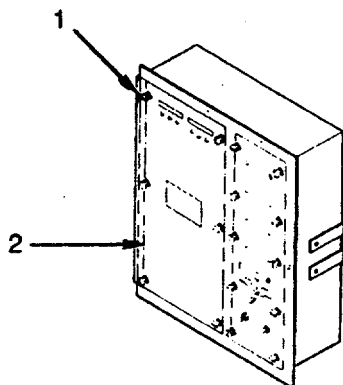

Figure 4-8. Left Electric Plate
- f. Open Left Electric Plate. Loosen six captive fasteners (1) and open panel (2) (see Figure 4-8).